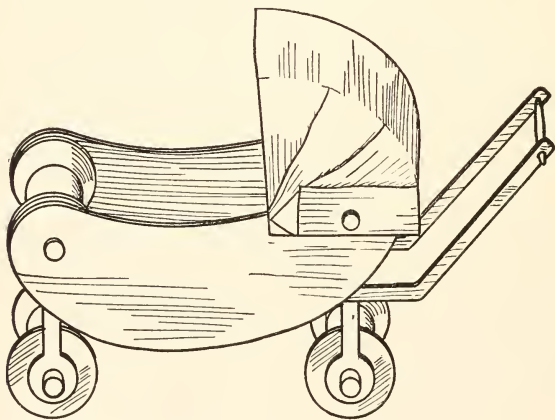

FIG. 299. — Doll Carriage.
**A Baby Carriage** than that shown in Fig. 299, with its rounded ends, arched bottom, and adjustable hood? It is easy to make.
The carriage handle is made of two cardboard strips (*F*, Fig. 305), and a match (*G*). Stick the match through holes made near the ends of strips *F*, and glue the lower ends of the strips to the inside face of the sides (Fig. 299). This completes the carriage.